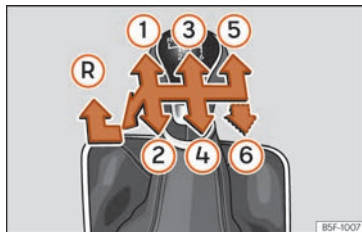

Fig. 87 Gear shift pattern of a 5 or 6-speed manual gearbox.
»» Fig. 87.
- With the gear lever in neutral, push it down, move it all the way to the left and then forwards to select reverse gear »» Fig. 87 (R).